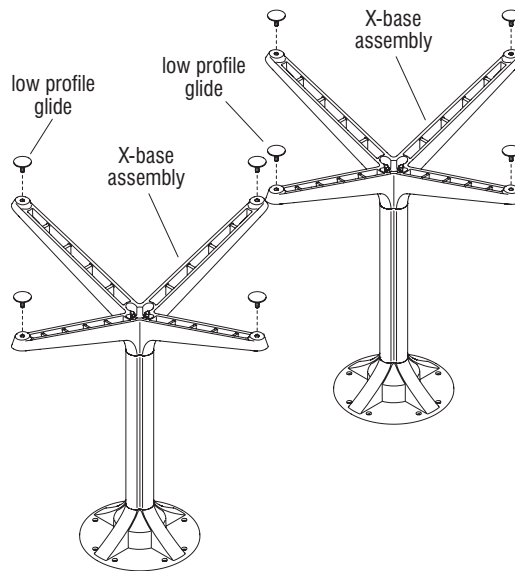

Figure 1
1. Carefully place the X-base assemblies upside down on a soft, protective surface (Figure 1).
2. Thread the stem of each glide into a threaded insert at the underside of each foot by hand (Figure 1).